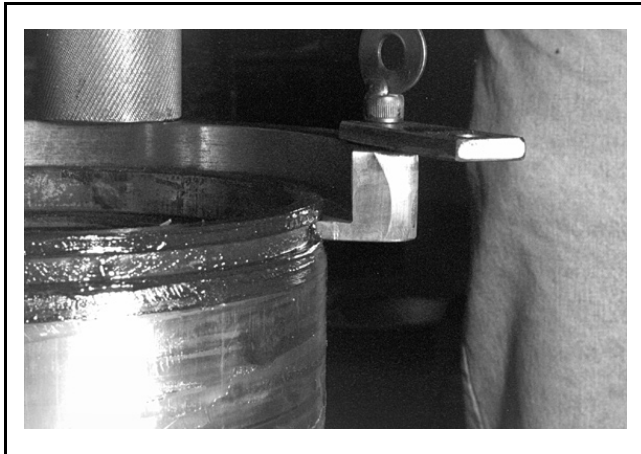

FIGURE 12 (MSSM0275AE)
- Hook the *shaft sleeve tool* (FIGURES 12 and 13) to the milled groove in the *shaft sleeve*. Using the tool's slide hammers, free the *shaft sleeve* from the shaft and discard.